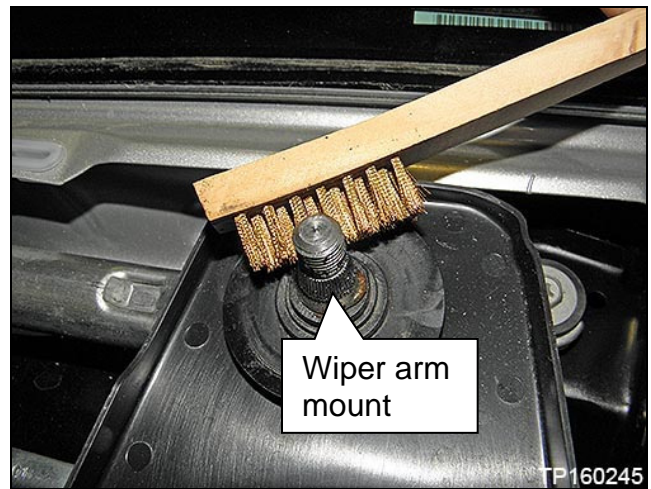

Figure 13
4. Clean the wiper arm mount (Figure 13).